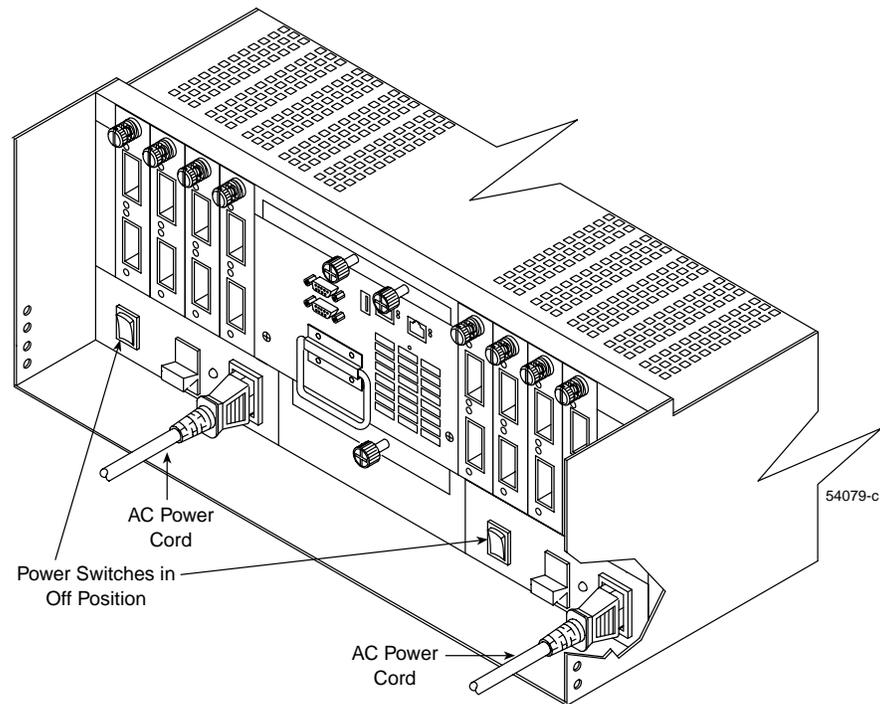

Figure 8-13 Connecting the Controller Enclosure Power Cords
3. Plug the controller enclosure power cords into the controller enclosure power supplies (Figure 8-13).